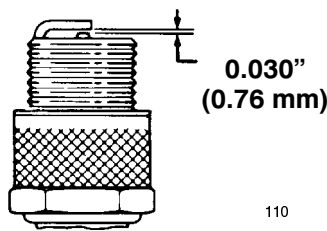

Figure 39
3. Set the air gap between the spark plug electrodes at 0.030 inch (0.76 mm) (Fig. 39).